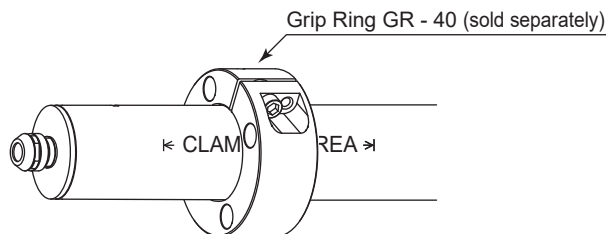

Fig. 28
* When installing the Motor Spindle, it is recommended to use a "Grip Ring GR - 40 (sold separately (Fig. 28))". If the Grip Ring GR - 40 cannot be used due to the restriction of dimension and space, install as shown in (2) below.